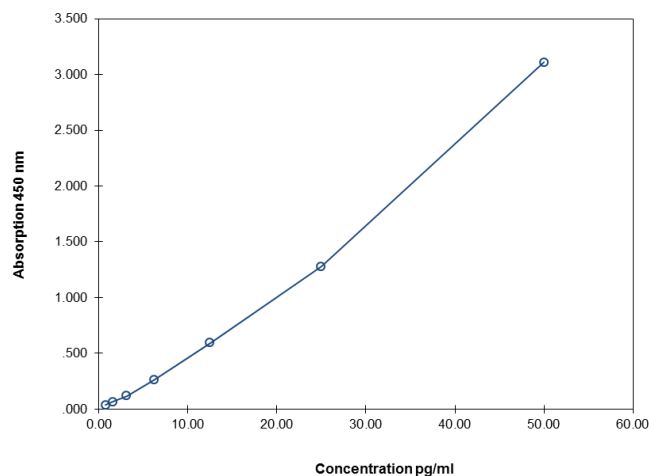

Fig. 8 Representative standard curve for GLP-1 ELISA. GLP-1 was diluted in serial 2-fold steps in Sample Diluent.
- A representative standard curve is shown in Figure 8.